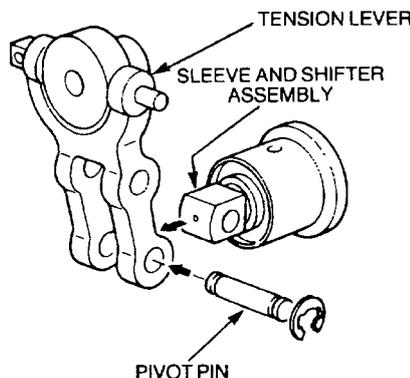

Figure 106 Connecting Sleeve and Shifter Assembly
- k. Position the tension lever over the shifter. Align the pivot pin holes, install the pivot pin and secure it with new snap-rings (Figure 106).